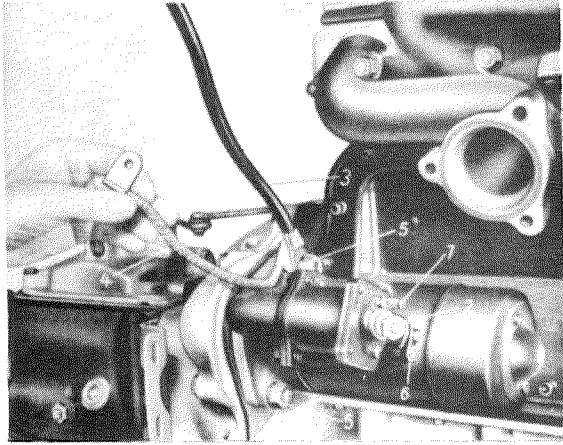

Fig. 15—1/1
2. Take off the control cable (2) of the solenoid switch, terminal 50, after removing the slotted screw (see Fig. 15—1/2).
at the contact terminal (2) of the solenoid switch by unscrewing the hexagon nut (Fig. 15—1/1).